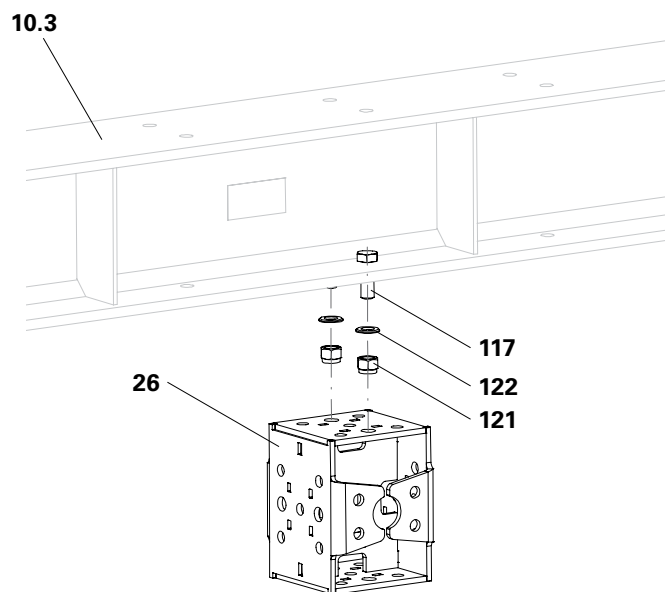

Fig. B4.17
- With the Crane Rail S49, the Support Wedge Box is mounted vertically. (Fig. B4.17)